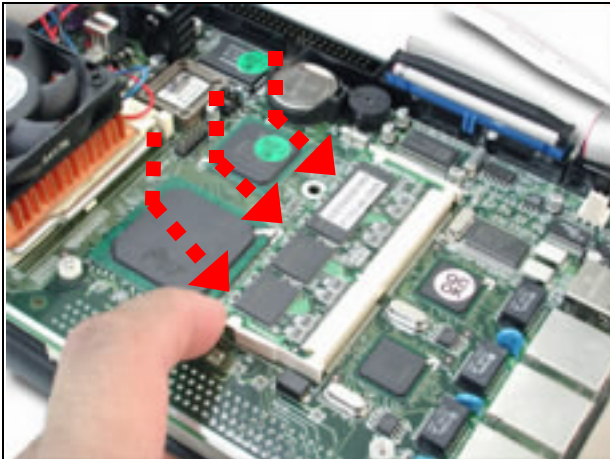

Fig. 2-12 The memory slot
1. Install the system memory by pulling the socket's arm and pressing it into the slot gently. (*Fig. 2-12, 2-13*)